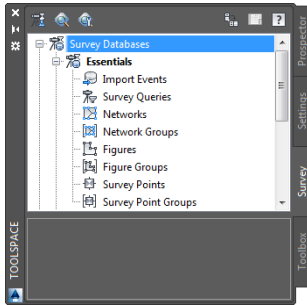

FIGURE 3.2 The Essentials survey database shown in Prospector after the completion of step 7
7. The Essentials database is now shown on the Survey tab. Note the components of the survey database, such as Import Events, Networks, Figures, and Survey Points (see Figure 3.2). The survey database establishes and manages relationships between these different components.